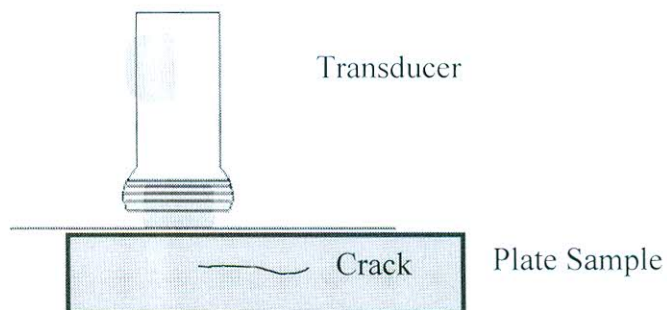

Figure 1: Flaw detection using ultrasonic testing
- [c] Figure 1 shows the position of the transducer during flaw detection using ultrasonic testing. Sketch the reflected sound energy versus time on the ultrasonic testing instrument screen.